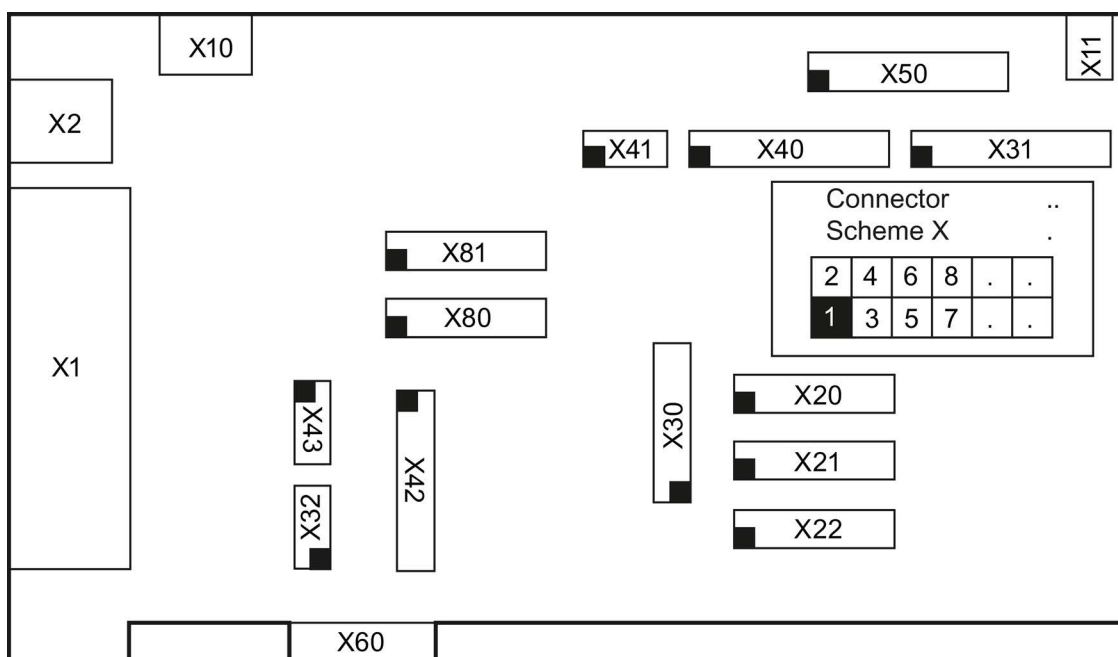

Figure 4-12 Overview of connectors for Evaluation Board EB 200P
3. Connect a free USB port of your PC to the USB port (RS232 via USB) of the EB 200P, see terminal connection in Figure 4-12 Overview of connectors for Evaluation Board EB 200P (Page 29).